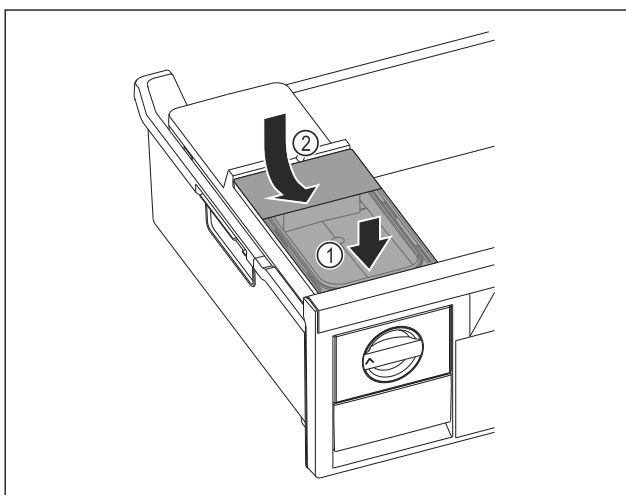

Fig. 80
- ▶ Position the water tank at the front. Fig. 80 (1)
- ▶ Lower the water tank at the rear. Fig. 80 (2)